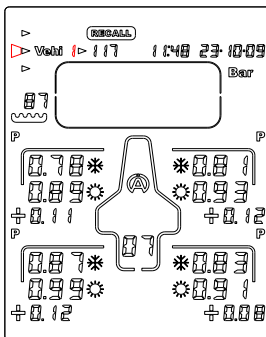

Figure 9
- 2) With the button  or , select the icon « **Vehi** » (figure 9)
- 3) With the button  or , select the vehicle wanted (figure 9)